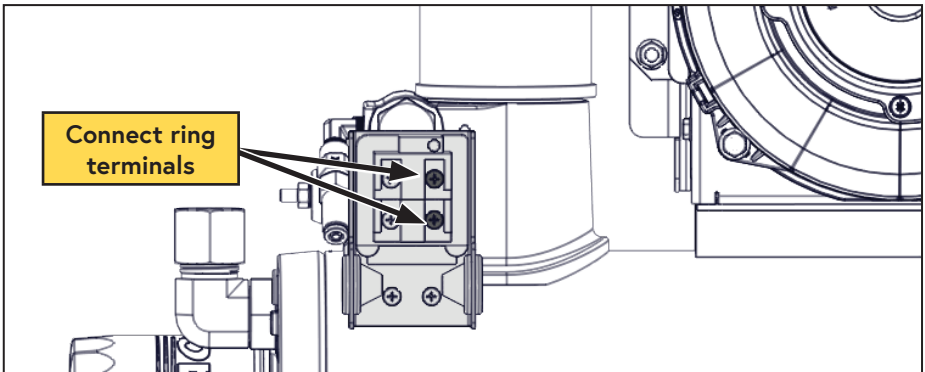

Figure 39 — Connect pressure switch
- Connect the ring terminals from the white wire running from the control module, and the grey wire running from the pressure switch (at the compressor), to the pressure switch on the WHASP Tank (these are not polarity dependent) (Figure 39).